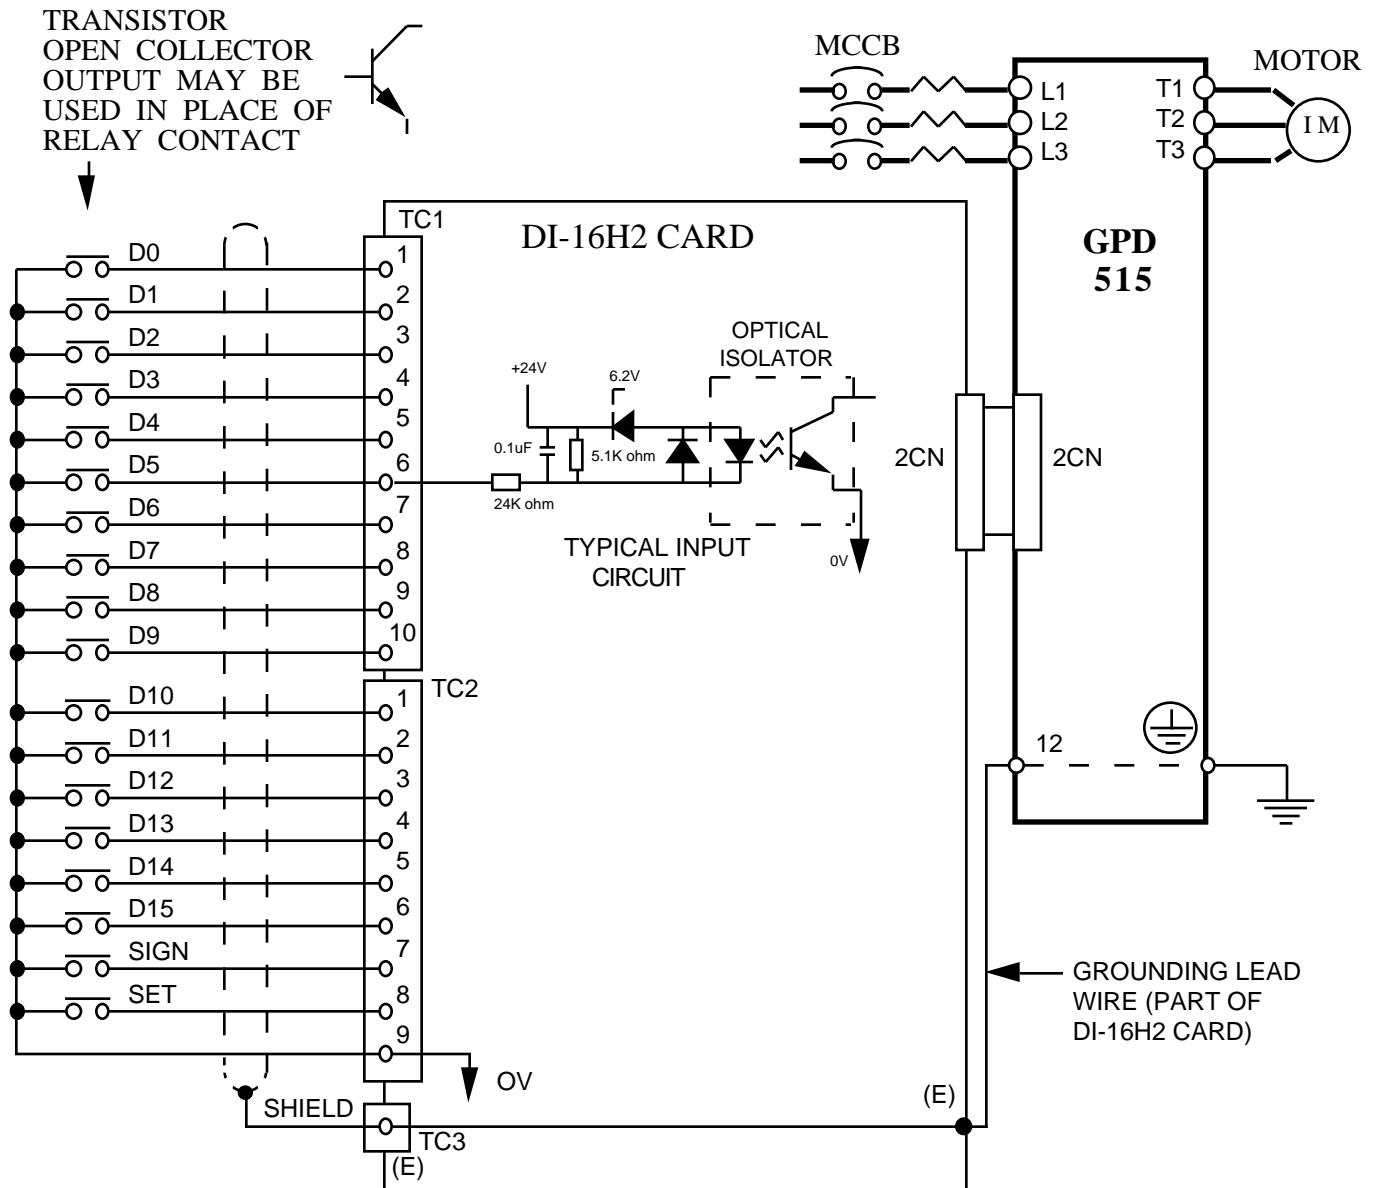

Figure 3. Interconnection for Digital Reference Card (DI-16H2) Circuit
- Wiring.** See Figure 3 and Tables 2 & 3 for Digital Reference Card (DI-16H2) connections. Connect digital input signals to terminal blocks TC1 and TC2. Route wires from the GPD 515/G5 and connect to the peripheral device(s). Refer to "Electrical Installation" in the GPD 515/G5 technical manual for further information on use of shielded cable.